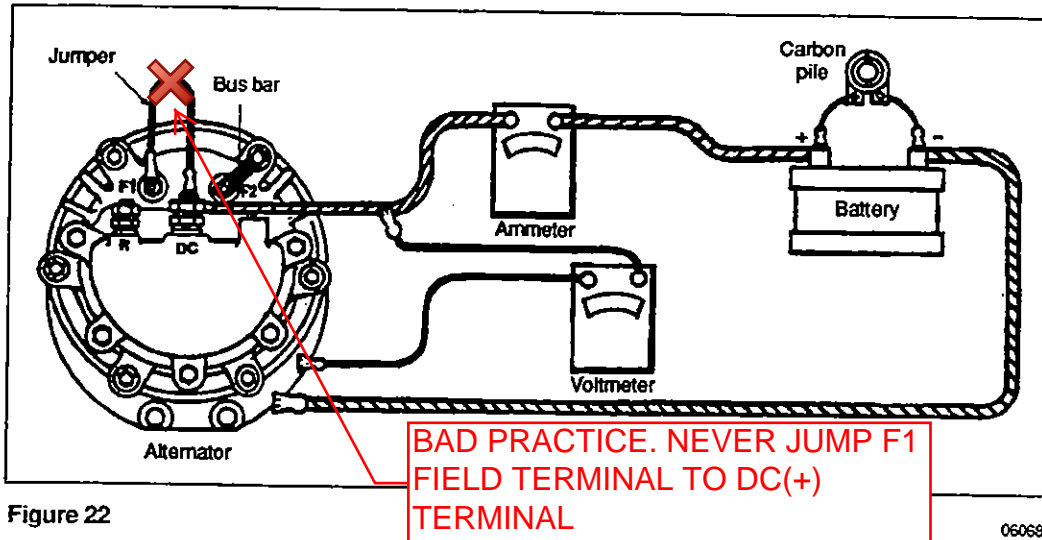

Figure 22
1. Start the engine and momentarily connect a jumper from the "F1" field terminal to "DC (+)" terminal. For connections, refer to figure 22.